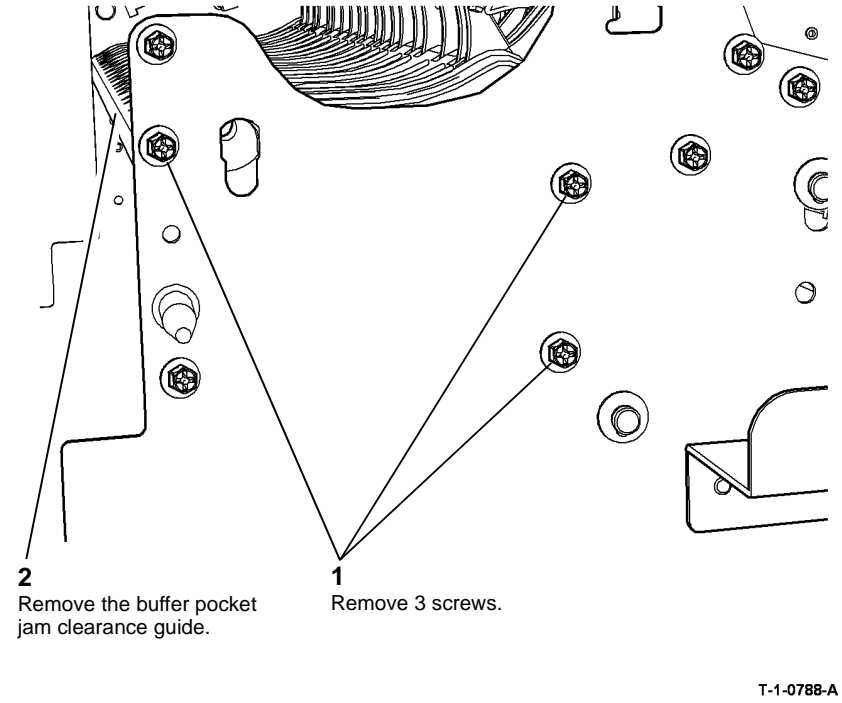

Figure 2 Guide removal
7. **Figure 2.** At the front of the HVF, remove the buffer pocket jam clearance guide.